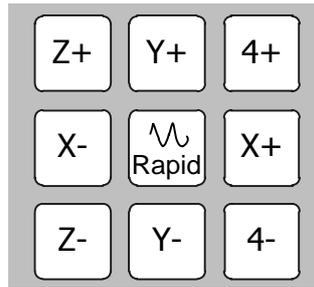

Fig. 1-9 Axis direction keys
- Axis direction keys, used for manual control of each axis movement in jog mode or jiggle mode. See Fig. 1-9 for concrete keys. How to use [Rapid] key? In manual mode, when any axis direction key and [Rapid] key are together pressed, the axis moves at manual high speed, or called rapid jog speed; when any axis direction key is pressed alone, the axis moves at manual speed, or called jog speed.